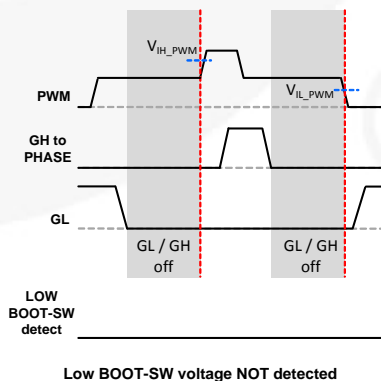

Figure 33. Low BOOT-SW Voltage NOT Detected and PWM from 3-State to HIGH or LOW
- If no low BOOT-SW condition is detected, the SPS follows the PWM command when exiting 3-state (see Figure 33).